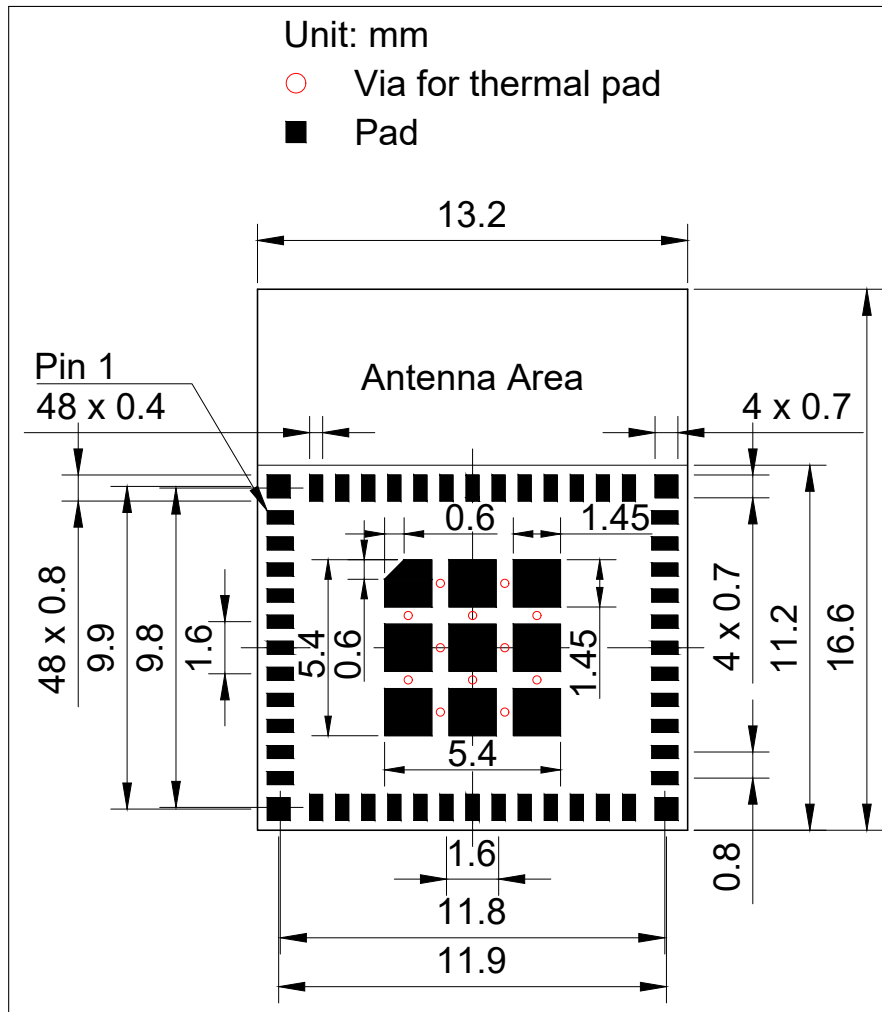

Figure 10: ESP32-C3-MINI-1 Recommended PCB Land Pattern
- Figures for recommended PCB land patterns with all the dimensions needed for PCB design. See Figure 10 *ESP32-C3-MINI-1 Recommended PCB Land Pattern* and Figure 11 *ESP32-C3-MINI-1U Recommended PCB Land Pattern*.
- Source files of recommended PCB land patterns to measure dimensions not covered in Figure 10 and Figure 11. You can view the source files for ESP32-C3-MINI-1 and ESP32-C3-MINI-1U with Autodesk Viewer.